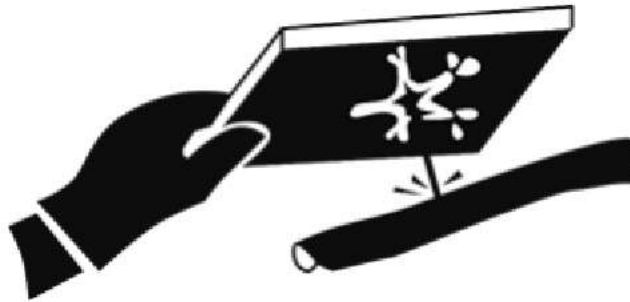

Figure 3-21 Prevent high-pressure oil leaking from small holes
5)There is a hazard that high-pressure oil leaking from small holes may penetrate your skin or cause blindness if it contacts your eyes directly. When carry out inspection, wear safety glasses and leather gloves. If necessary, use thick cardboard or small wooden blocks to stop the leak, as shown in Figure 3-21.